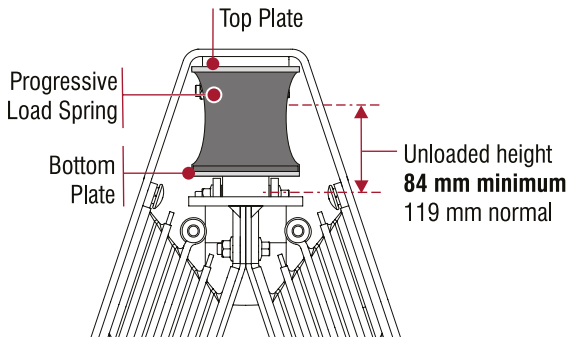

Figure 6: Progressive Load Spring Inspection
- With the vehicle in the unloaded condition, measure the height of the progressive load spring from the top plate to the bottom plate, refer Figure 6. Normal height is 119 mm, if the measurement height is 84 mm or less, replace as outlined in "Progressive Load Spring" on page 16.